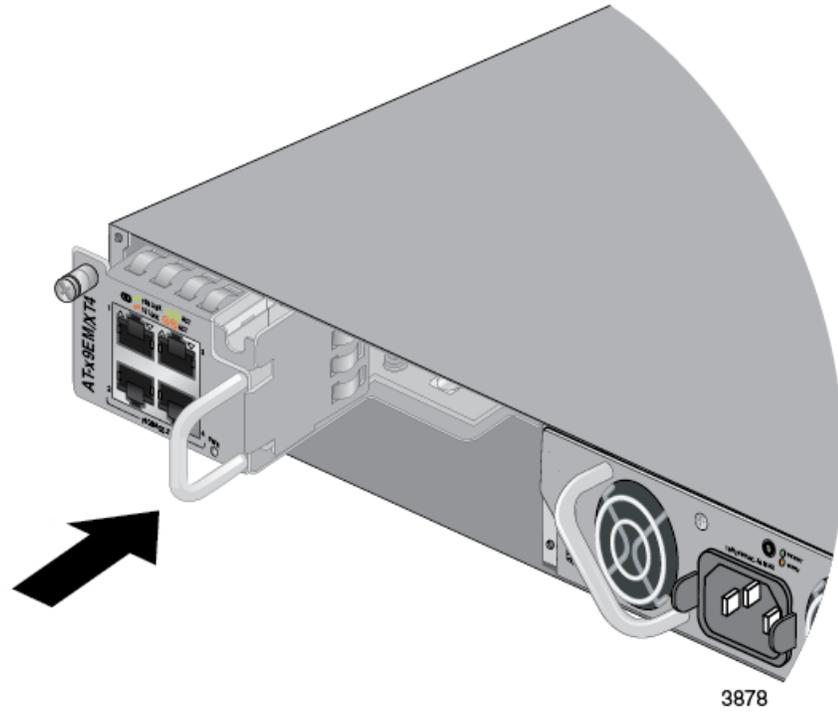

Figure 34. Seating the AT-x9EM/XT4 Card in the Switch
- When you feel the card make contact with the connector inside the switch, gently press on the handle to seat it on the connector. Refer to Figure 34 on page 83.